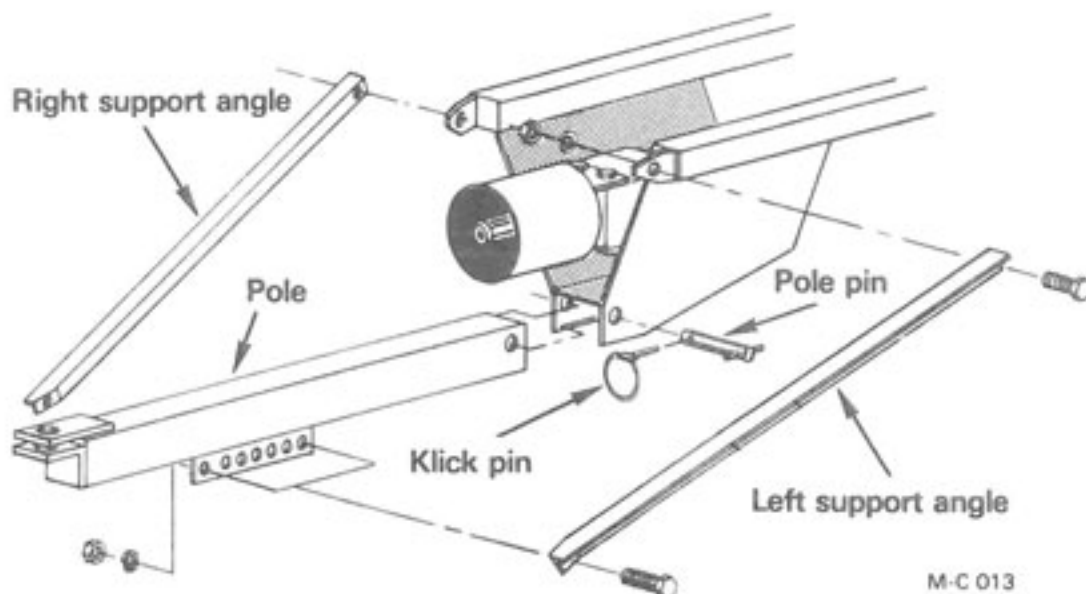

Figure 5
1. Lift the front of the Shredder and place the pole in position under the gear box and install the pole pin, see Figure 5 and 6. Secure the pole pin with the klick pin. Be sure klick pin ring is snapped into the locking position.
2. There are seven pole support angle mounting holes on each side of the pole, see Figure 5 and 6. Select the position that will set the pole at the correct tractor drawbar height and keep the Shredder body as level as possible (See note). Secure the pole support angles with four $\frac{3}{4}$ "-10 x 2" (Grade 5) hex-head capscrews, lockwashers and nuts.